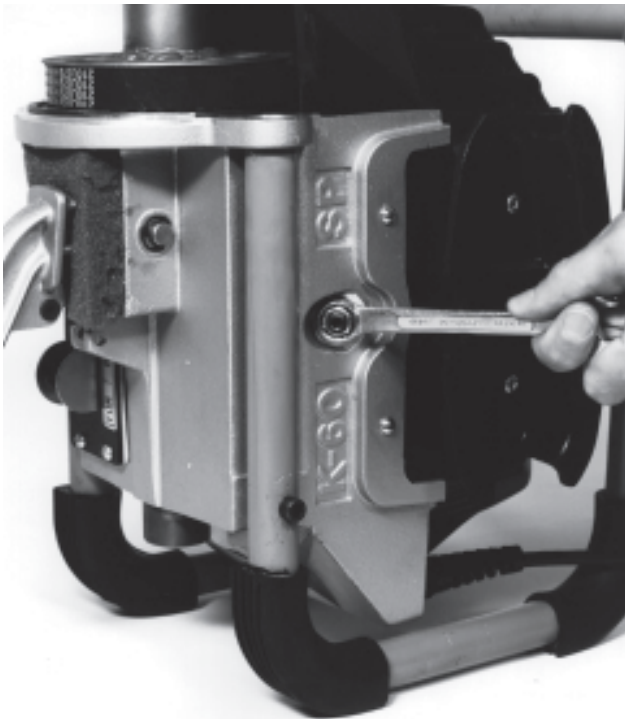

Figure 13 – Loosen Jam Nut
3. Loosen the jam nut on the side of the machine (*Figure 13*).